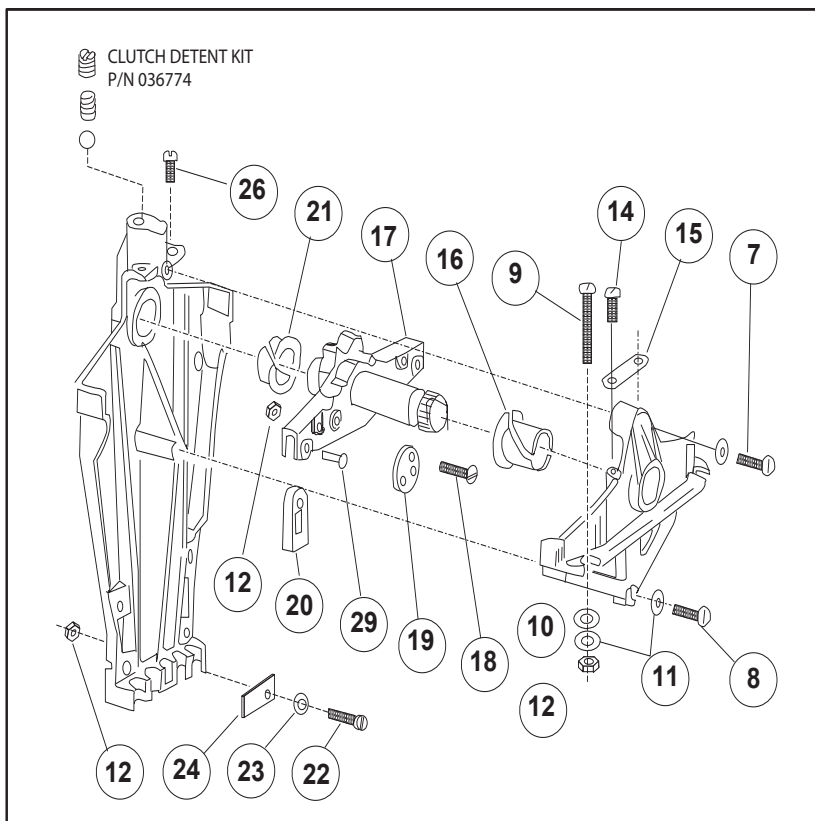

FIGURE 7- ONE HALF THE TWIN SR SHOWN
1. Typical dual station applications are shown in Figure 7.
### Decorative Rebuild Kit #CA68350 Not Shown in Figure 7.
2. The following, packed with the Control and shown on Figure 7, page 5, are to be discarded: